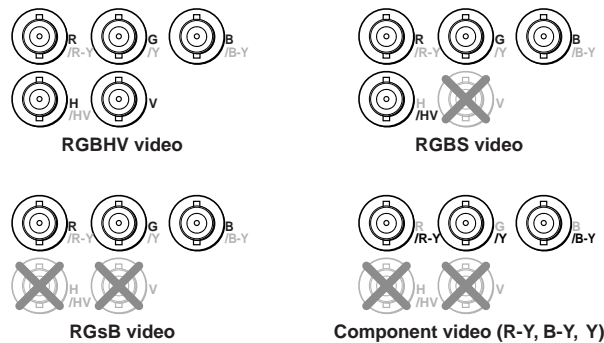

Figure 2-3 — Input 2 connections for RGBHV, RGBS, RGsB and component video
- ③ **Input 2 (RGB or component video) connectors** — Connect RGBHV, RGBS, RGsB, or component video (R-Y, Y, B-Y for YUVi or YUVp, or Betacam) to these female BNC connectors (figure 2-3).